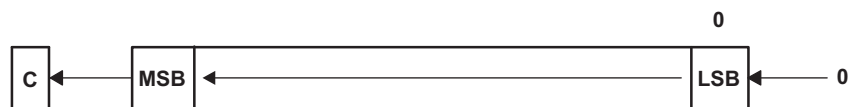

Figure 4-44. Destination Operand-Arithmetic Shift Left
Description The destination operand is shifted left one position as shown in Figure 4-44. The MSB is shifted into the carry bit (C) and the LSB is filled with 0. The RLAX instruction acts as a signed multiplication by 2.